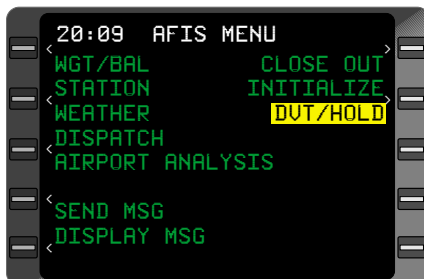

Figure 8-29
- Line Select Key - DEPRESS to position the cursor over **DVT/HOLD**. See Figure 8-29.